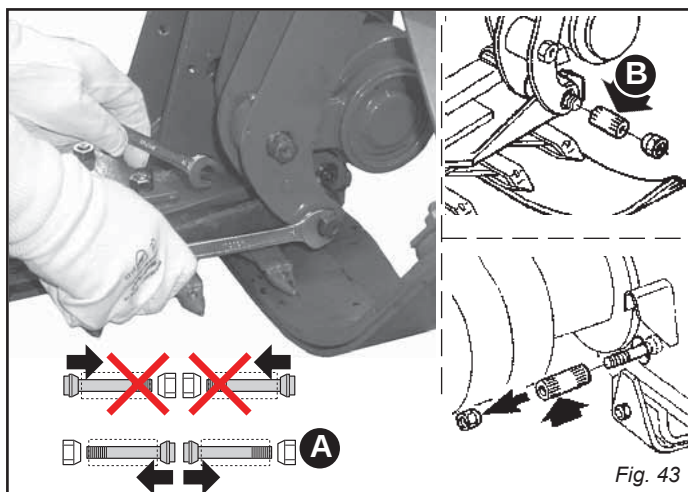
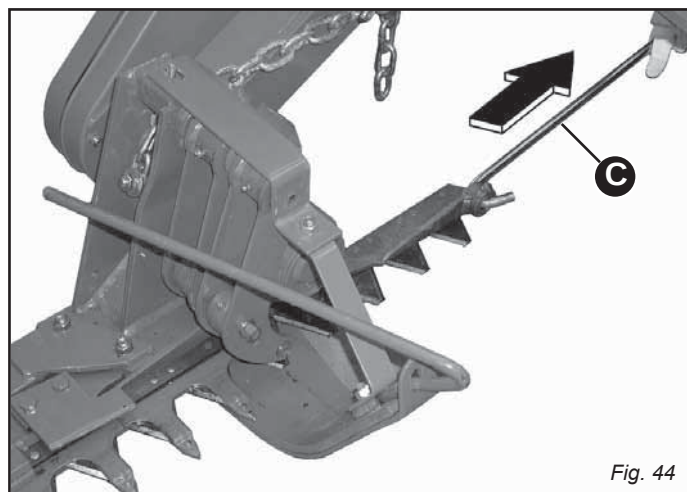

Fig. 43
Fig. 44
The expansion pins must be reassembled as shown in Figure 43 (A), by tightening the screw and the conical nut with a torque not exceeding 30 Nm.
- Remove the expansion pin (B, Fig. 43) and pull out the section-holding bar (Fig. 44) with the hooking tie rod (C, Fig. 44).
- Remove the expansion pin (B, Fig. 43) and slide out the section-holding bar (Fig. 44).
- Remove the expansion pin (B, Fig. 43) and slide out the tooth-holding bar (Fig. 44).